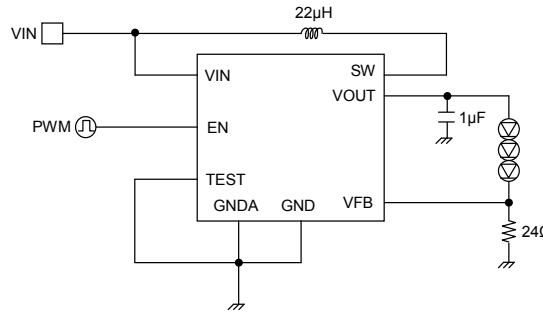

Fig.38 The brightness adjustment example of EN terminal by PWM (fPWM = 100Hz ~ 300Hz)
1) PWM brightness adjustment is made by giving PWM signal to EN as shown in Fig.38.